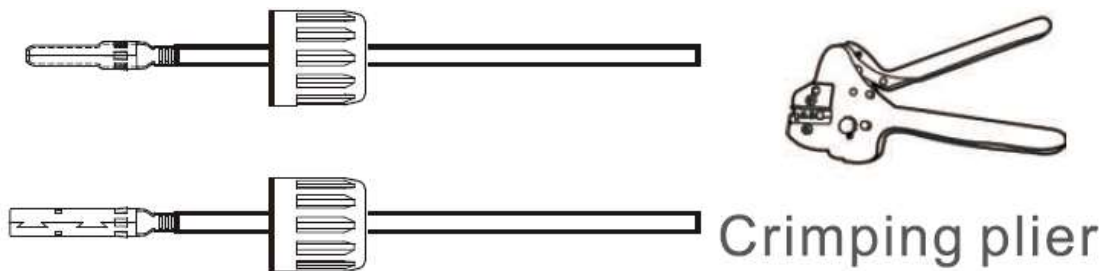

Figure 7.12.3 Crimp the contact pin to the wire
- 3) Crimp the contact pin to the wire using a proper wire crimper. (see Figure 7.12.3)